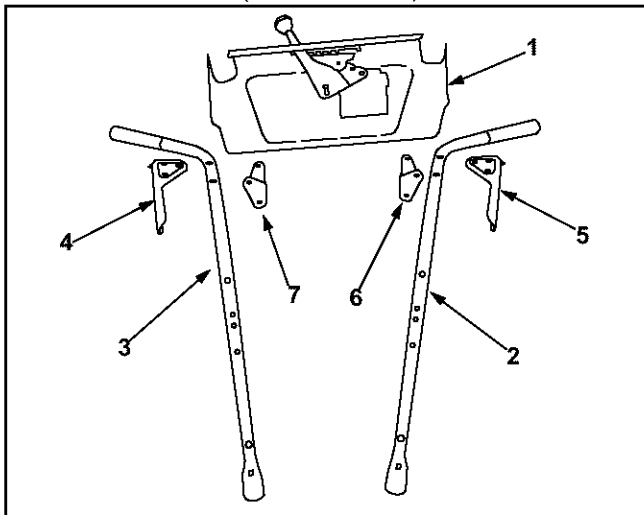

Figure 1
- Find the loose parts in the carton and lay these on the floor. See Figure 1. You should locate the following loose parts in the carton: